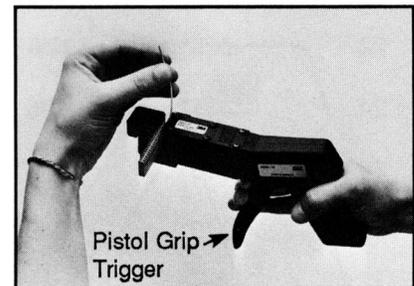

Figure 7
3. To terminate the wire, close the pistol grip trigger and then release the trigger to the ready position. This action will also index the connector body to the next contact assembly position. See Figure 7.